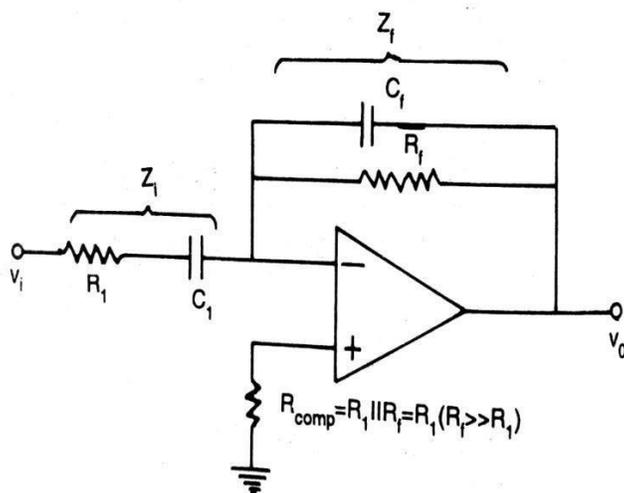

Fig. 4.21 (b) Practical differentiator
- There is one more problem in the Differentiator of figure 4.21(a).
from eq(3), it is evident that the gain increases at + 20 dB/decade for frequency  $f < f_b$  and decreases at -20 dB/decade for  $f > f_b$  as shown by dashed lines in figure 4.21( c)
- For the basic differentiator of Fig.4.21(a) the frequency response would have increased continuously at the rate of +20dB/decade even beyond  $f_b$  causing stability problem at high frequency.